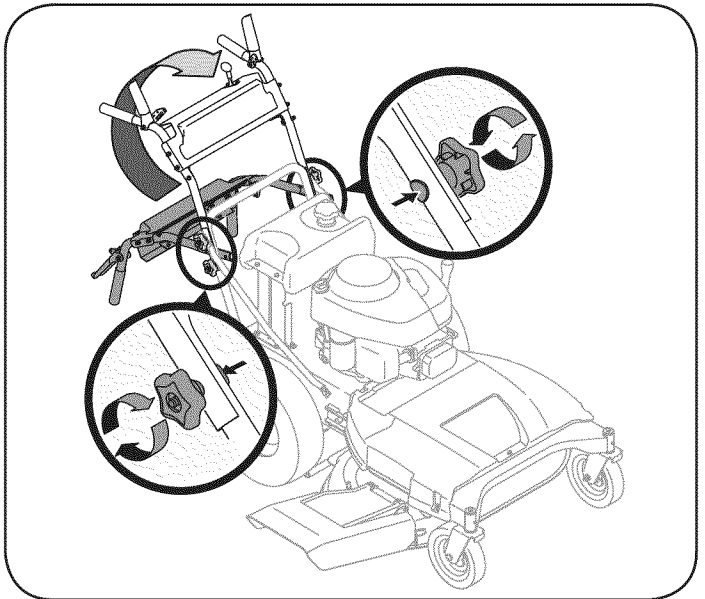

Figure 2
2. Pivot upper handle into operating position, Figure 2. Be careful not to bend or kink the cables when pivoting the handle.
4. Tighten the upper and lower star knobs and carriage screws to secure the upper handle to the lower handle, Figure 2.